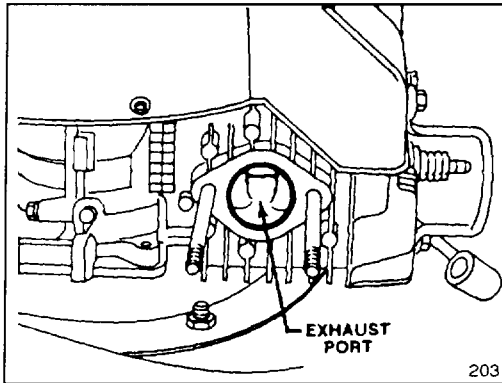

Figure 12
3. Pull wire off spark plug. Slowly pull recoil starter so piston covers exhaust port (Fig. 12).
4. Clean carbon from exhaust port (Fig. 12) with flat, hard wood scraper.
5. Reinstall muffler with screw, (2) nuts and lockwashers (Fig. 12). After cleaning exhaust port, make sure muffler gasket is still usable.